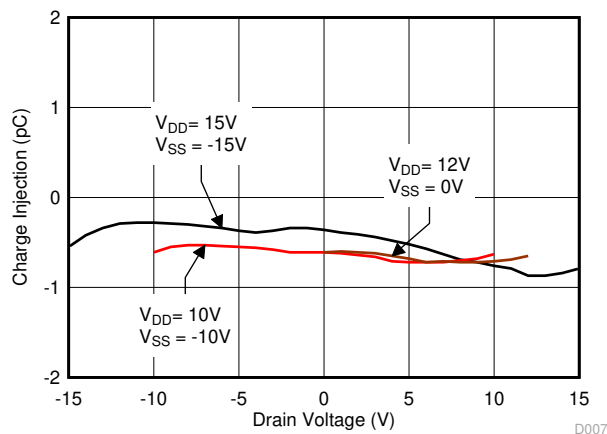

图 7-15. Charge Injection vs Drain Voltage
The TMUX6136 utilizes special charge-injection cancellation circuitry that reduces the drain (D)-to-source (Sx) charge injection to as low as -0.4 pC at $V_S = 0$ V, as shown in 图 7-15.